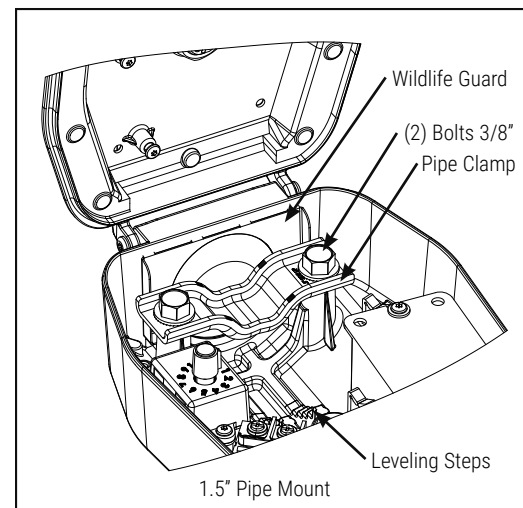

Figure 1.
2. Using a 9/16" socket, loosen the two pipe clamp bolts enough to allow mounting arm (not included) to slide onto leveling steps. (Figures 1 & 2.)